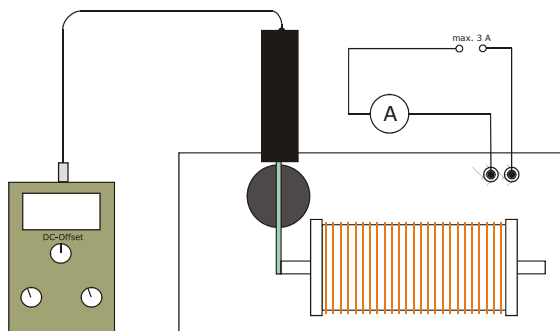

Fig.1 Obtaining a hysteresis curve
- Connect the power supply, coil and ammeter in series (see Fig. 1).